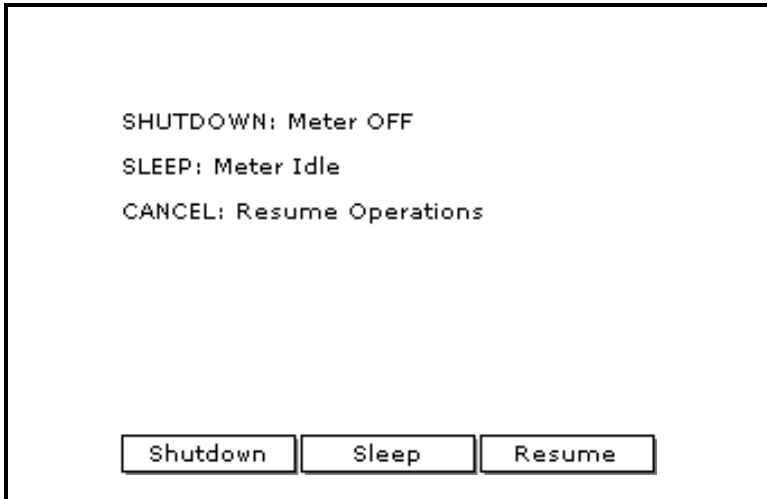

Figure 1-2: The Shutdown Menu
1. To turn the PM880 off, press the red key for 3 seconds. The screen now appears similar to Figure 1-2 below.